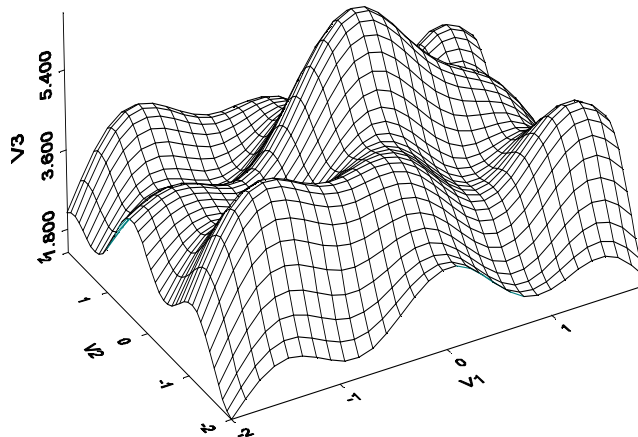

Figure 3.47: *Surface plot of the `exsurf` data.*
3. Click the **Data Grid Surface** button  on the **Plots 3D** palette. The resulting graph is displayed in Figure 3.47.